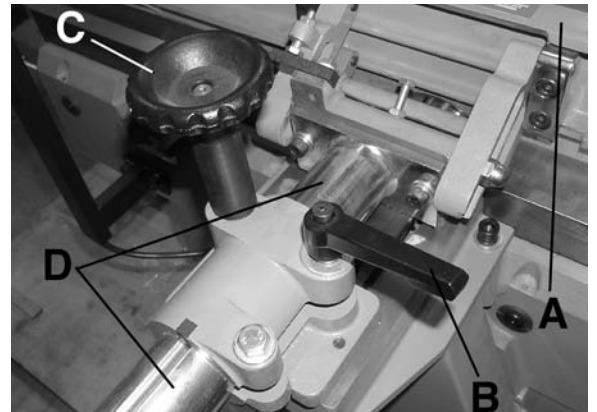

FIGURE 8
The fence (A) Fig. 8, can be positioned anywhere across the table by loosening lock lever (B) and rotating handwheel (C). Once the fence is moved to its desired position, retighten lock lever (B) securely. As the fence (A) is moved across the table, the sliding portion of the column (D) protects you from the cutterhead during operations.